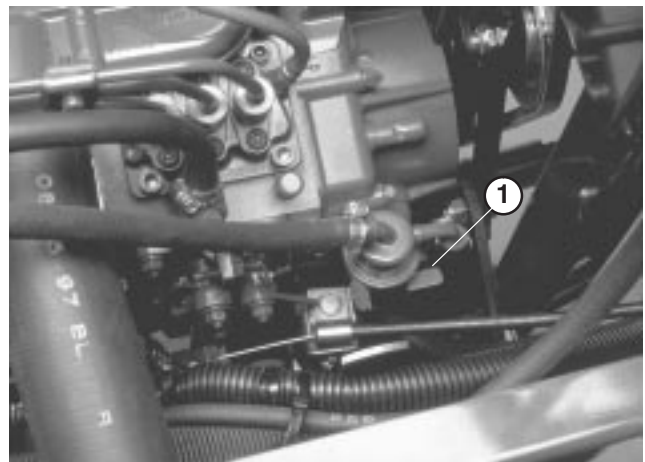

Figure 30
3. Pump lever on fuel pump (Fig. 30) until a solid stream of fuel flows out around screw. Tighten air bleed screw.
5. Pump lever on fuel pump (Fig. 30) until a solid stream of fuel flows out around screw on fuel injection pump. Tighten air bleed screw.